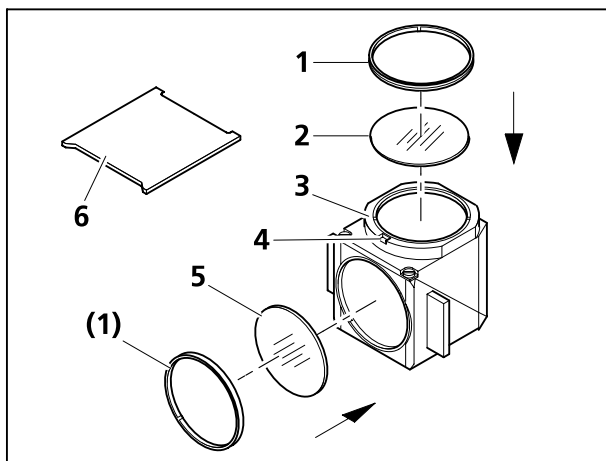

Fig. 3-42 Changing the filters in the reflector module FL P&C
- Remove the reflector module FL P&C (Fig. 3-42/3) from the reflector turret and put it aside (see also chapter 3.1.6).
- Unscrew the adapter ring (Fig. 3-42/1) with the mounting plate included with the tools (Fig. 3-42/6).
- Turn over the reflector module and let the filter (Fig. 3-42/2 or 5) drop onto a soft surface.
- The emission filter is inserted in Fig. 3-42/2, the excitation filter in Fig. 3-42/5. Then fixate with the adapter rings (Fig. 3-42/1).
Emission and excitation filters can have a name and an arrow in the girth. The arrow indicates which way the filter must be mounted on the reflector module and should always point inward (see arrows in Fig. 3-42).
When mounting the appropriate emission filter into the according reflector module, the mark should be aligned with the orientation groove (Fig. 3-42/4). This guarantees that the point angle in the reflector modules acts equally and compensates or minimizes the image offset – already low in Zeiss filter sets – even further.